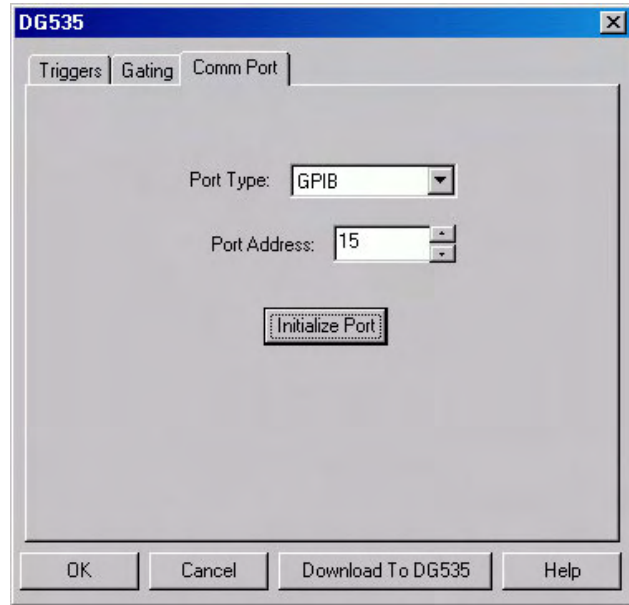

Figure 134. DG535 Comm Port tab page
5. Click on the **Comm Port** tab (Figure 134).